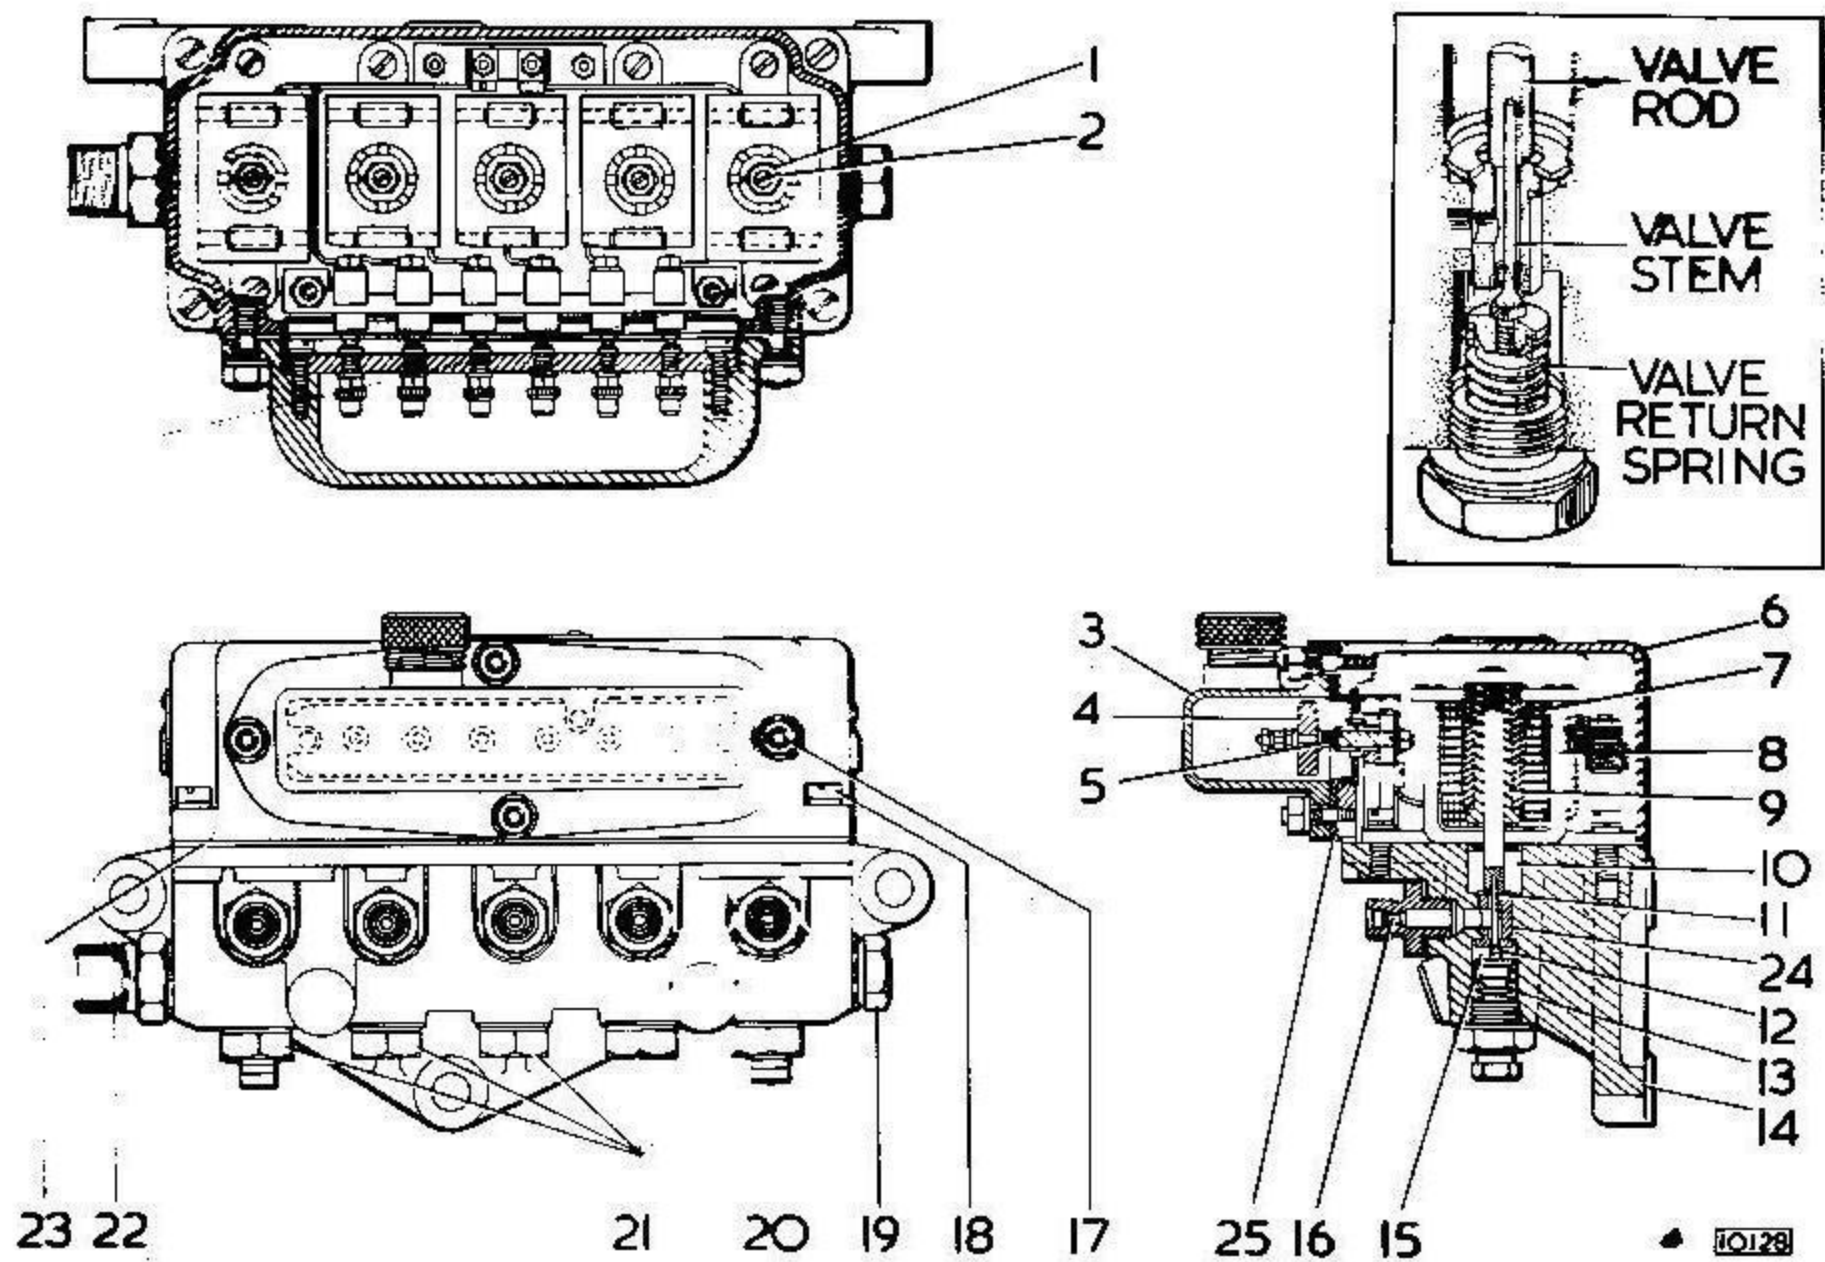

Fig. 32 The electro-pneumatic valve block
The drain plug (20) Fig. 32 must be removed at 8,000 Miles (12,000 km) intervals in order to drain off any water which may have accumulated in the high pressure gallery. The length of these intervals varies with climatic conditions and the moisture content of the air. No lubrication is required in the valve unit and because of the risk of dirt penetrating to the solenoids and valve assemblies, it is recommended that no adjustments be carried out while the unit is on the vehicle.
Dismantling (Fig. 32)